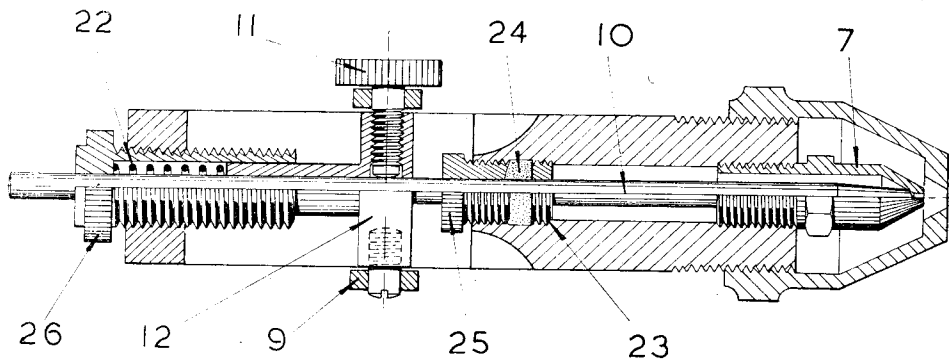

Fig. 3. Section of paint-valve
Here again I am giving an enlarged section in Fig. 3. The general arrangement drawing Fig. 1 shows the disposition of the paint needle (10), the trunnion (12) which is operated by the trigger (9), the clamping screw (11), and the exterior of the paint-valve (7), but does not show the whole mechanism in section. From Fig. 3 the construction of the paint-valve as a whole will be clear. The needle (10) is carried in the trunnion (12), which is loaded by the spring (22), thus keeping the needle up against the valve seat. To prevent leakage of paint there is a gland made up of three components, a screwed abutment (23) to prevent the gland packing being forced into the cavity below the container, compressed cork packing (24) and a gland nut (25). The paint needle, as I have said previously, may be instantly removed for cleaning by undoing the clamping screw and withdrawing the needle bodily through the spring box (26). The clamping screw serves also as one of the trunnion screws, the other being permanently fixed in the trunnion.
Since writing the above I have been able to carry out further experiments with the combining cone (4) and the paint-valve body (7). As a result, the details of these two components differ materially from those shown in the general arrangement drawing (Fig. 1), and the section of the paint-valve (Fig. 3). The details now given